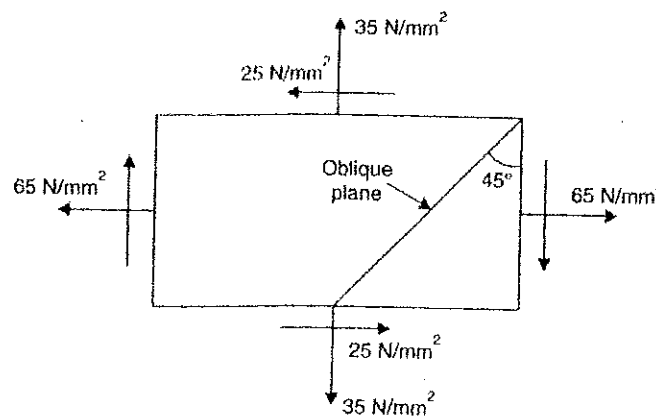

Fig. Q5
- (c) A point in a strained material is subjected to stresses shown in Fig. Q5. Using Mohr's circle method determine the normal and tangential stresses across the oblique plane. Check the answer analytically.